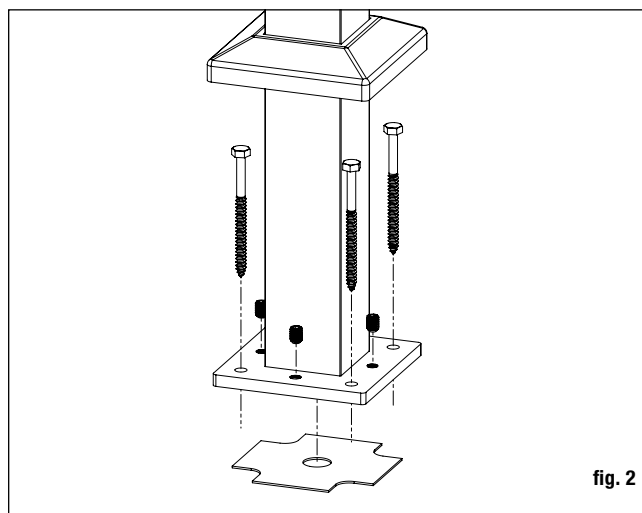

fig. 2
**Step 1** Install posts by attaching the aluminum base to the surface of the deck. Position the post so the fastener will go into the floor joist, and make sure the decking is firmly attached to the joist at the location of the posts. If necessary, use wood blocking securely attached to the joist structure as reinforcement underneath the decking where the posts are located. Fasteners that hold the post base to the surface should be able to secure to joist or reinforcement braces, not just the decking itself. *Note: When installing aluminum post on top of a wood surface, screws must be lagged into at least 3" of solid wood (not including the decking). 5/4" or 1 1/2" deck boards do not provide sufficient material for a safe installation. If necessary, add additional material to the underside of the surface (fig. 2).*